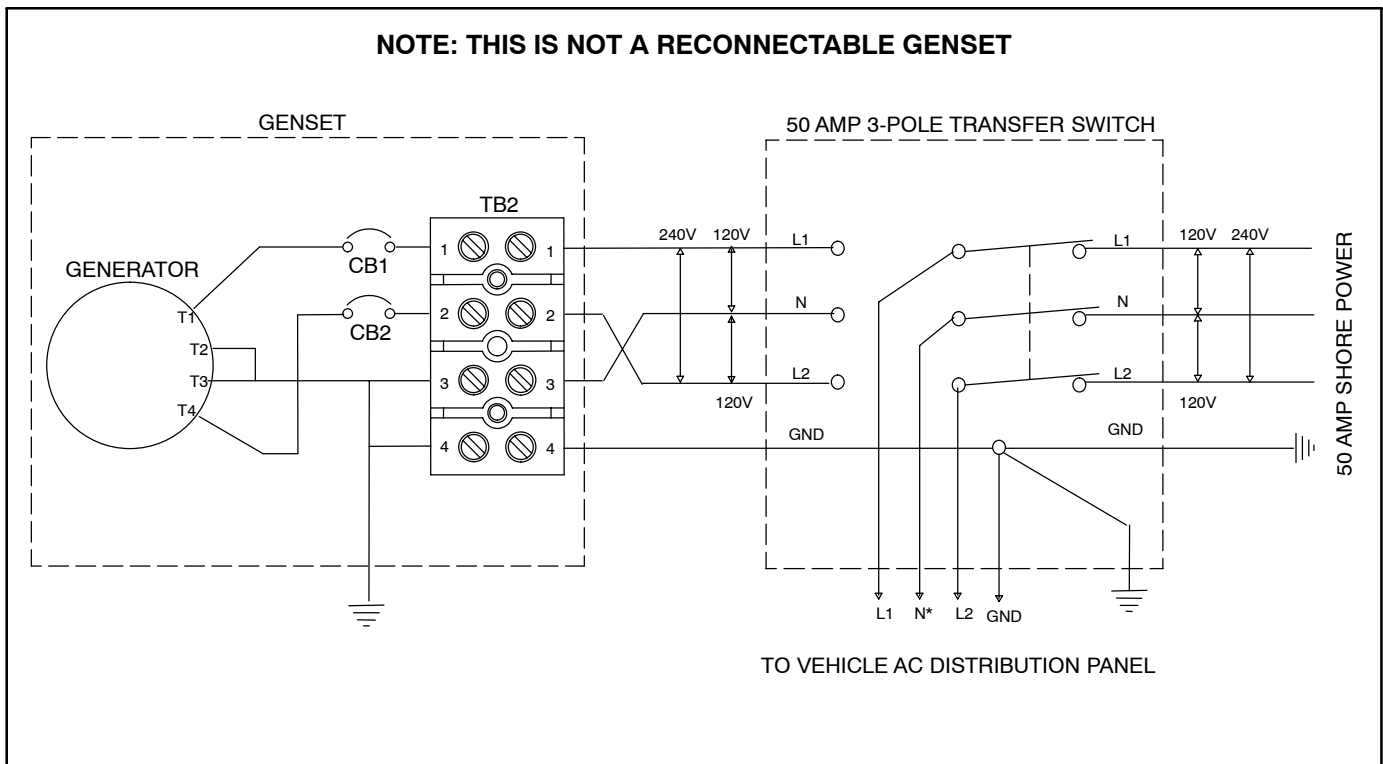

FIGURE 5-2. TYPICAL AC CONNECTIONS
8. Connect the grounding terminal (Terminal TB2-4, Figure 5-2) in accordance with applicable codes.
A vehicle with provisions for connecting utility (shore) power must have an approved device to keep the genset and utility from being interconnected. See Figure 5-2 for typical connections.